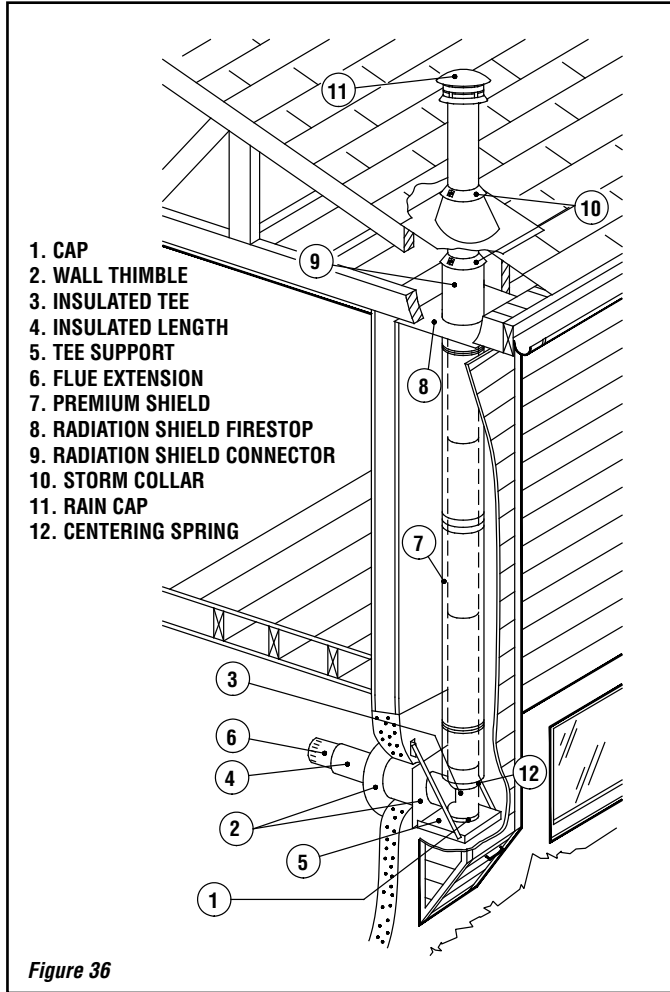

Figure 36
1. The chimney may be enclosed or unenclosed. **If enclosed at 2" clearance all around the chimney on a wood stove application, a Premium shield must be installed around the chimney (Figure 36).**